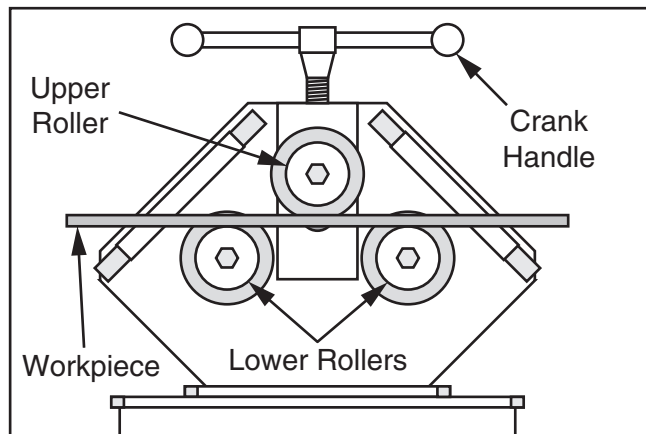

Figure 13. Workpiece placed on lower rollers in preparation for bending.
2. Use crank handle to raise upper roller, then place workpiece on lower rollers (see **Figure 13**).